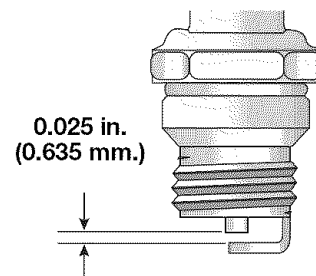

Fig. 18
3. Replace cracked, fouled or dirty spark plug. Set the air gap at 0.025 in. (0.635 mm) using a feeler gauge (Fig. 18).